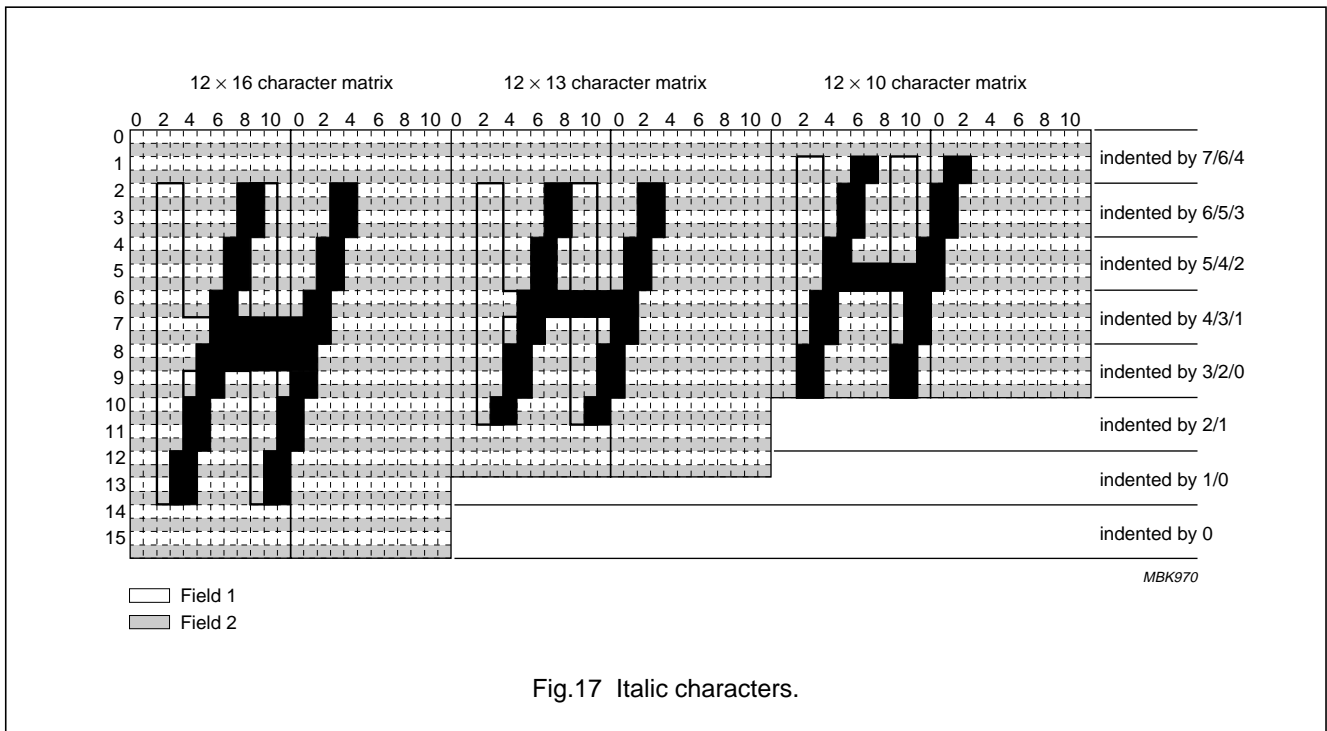

Fig.17 Italic characters.
**CC:** This attribute is valid from the time set until the end of the row or otherwise modified. The attribute causes the character foreground pixels to be offset horizontally by 1 pixel per 4 scan lines (interlaced mode). The base is the bottom left character matrix pixel. The pattern of the character is indented as shown in Fig.17.